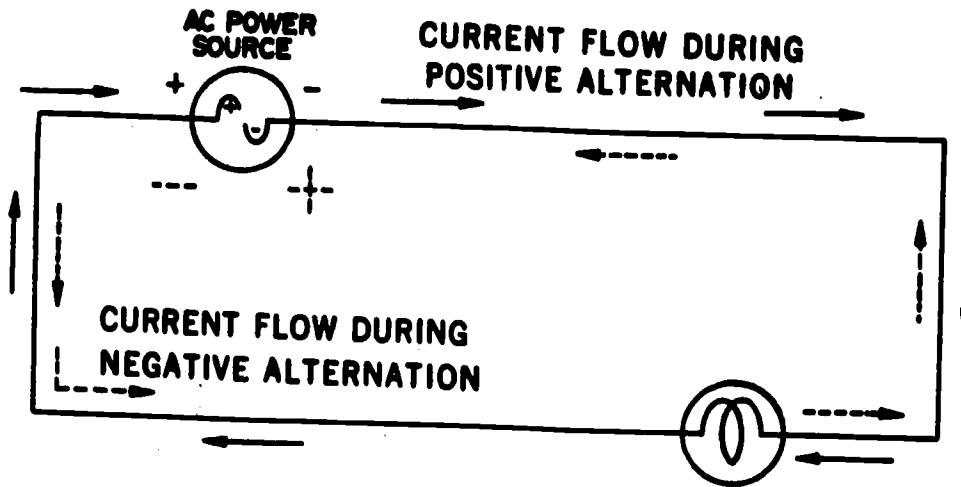

Fig 1-19. Electron flow in an AC circuit.
Electrical current flow, as you already know, consists of electrons moving in a circuit. Since the electron is negatively charged, it is repelled at the negative end of the circuit and attracted to the positive point. Therefore, it travels from negative to positive. In the direct current circuit, it moves in one direction only. In the alternating current (AC) circuit, its polarity is changing at regular intervals. This causes the current to flow in one direction and then in the opposite direction. Those alternations in current flow are illustrated in figure 1-19. The solid arrows indicate the direction of current flow during the positive alternation, and the dotted arrows show the current flow during the negative alternation. Since the current flow is continuously changing direction, it is called ALTERNATING CURRENT.